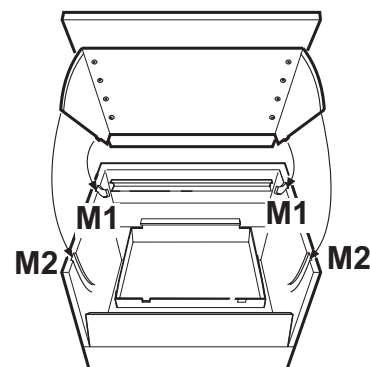

Fig. 11
- Refit the cover on the cooker hood firstly in the upper track (Fig. 11-M1), then in the lower track (Fig. 11-M2).